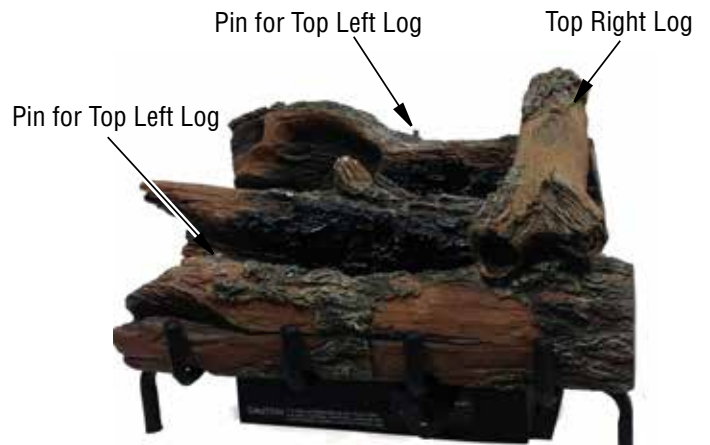

Figure 34 - Placing 18" Top Right Log
4. Place top right log as shown in **Figure 34**. This log will fit on the pin on bottom middle log resting on the flat recesses on the rear and front logs.
5. Place top left log as shown in **Figure 35**. This log will fit on the matching pins on the rear and front logs (see **Figure 34** for pin locations).